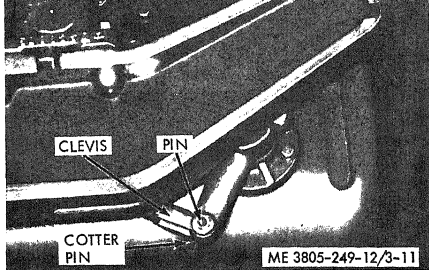

Figure 3-11. Parking brake linkage adjustment.
b. Linkage Adjustment. Refer to figure 3-11.
- (1) Loosen the linkage clevis locknut.